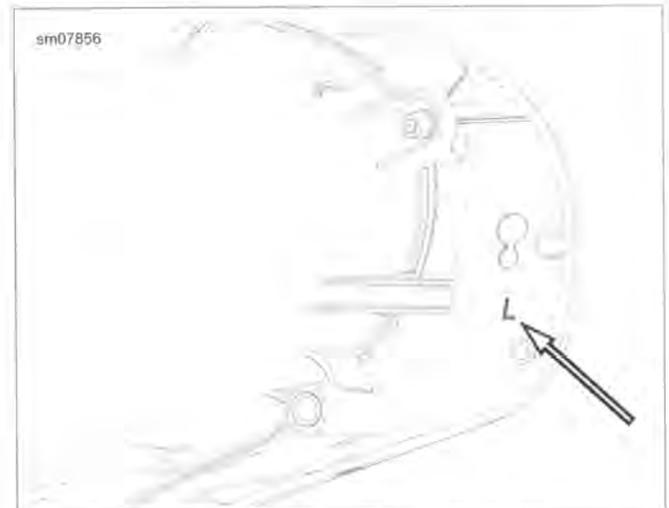
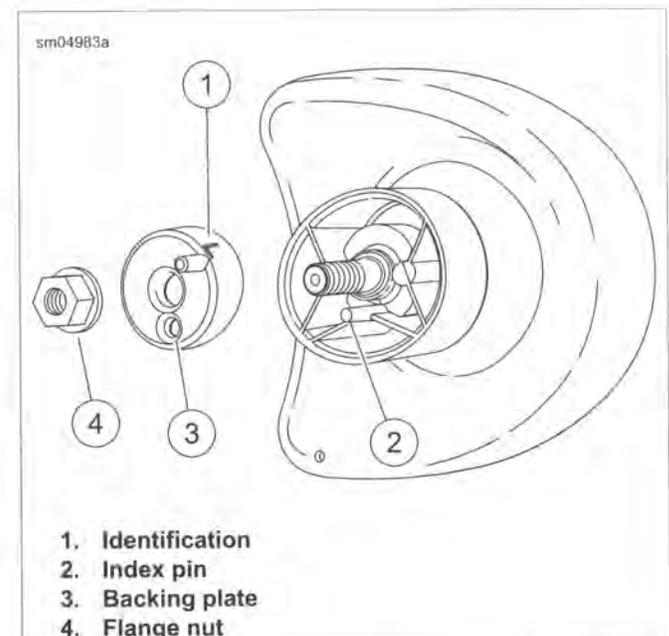

Figure 2-108. Mirror Location Mark
Figure 2-109. Mirror Assembly, typical (FLHX/S)
2. See Figure 2-109. Remove flange nut and backing plate. Remove mirror.
See Figure 2-108 and Figure 2-109. The letters "L" or "R" are stamped on the backing plate and inner fairing to identify location.
1. See Figure 2-109. With the bar and shield logo on mirror right-side-up, insert threaded stud and align index pin (2) with hole in inner fairing.
2. Install the backing plate (3) engaging the hole with index pin (2).
3. Install flange nut (4). Tighten to 20-30 in-lbs (2.3-3.4 Nm).